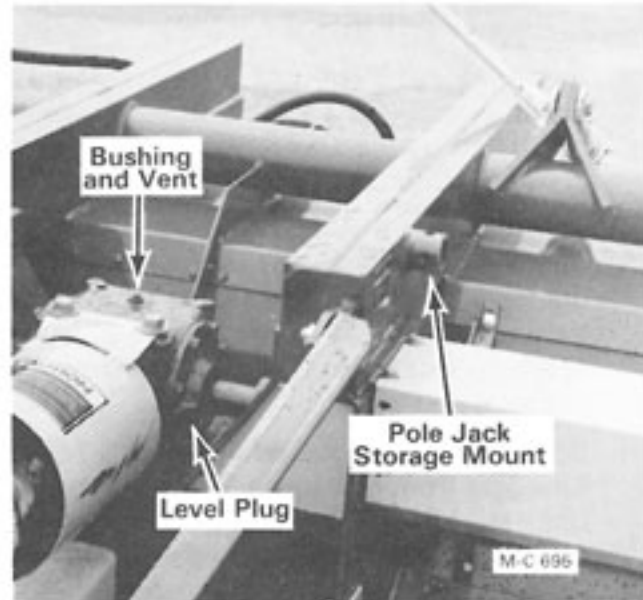

Figure 11 - Model 2408 Shown
1. Remove the oil level plug on the left side of the gear box, see Figure 11 page 8. The oil level should be even with the bottom of the